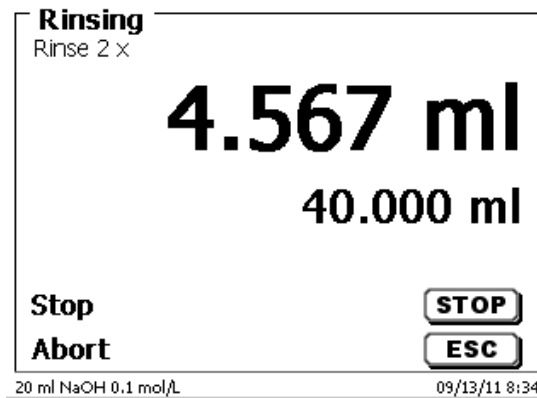

Fig. 29
**i** You can stop the rinsing operation (Fig. 29) at any time by pressing <STOP> and then resume rinsing with <START>.